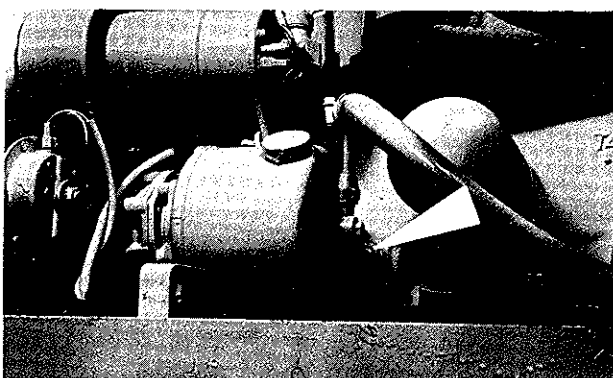

Fig. 3
7. **Oil pressure sender.** Remove. Identify and disconnect the lead from the oil pressure sender, and unscrew it from its location on the engine (fig. 3). Fit a new sender immediately or plug the hole, to prevent oil loss and dirt ingress.